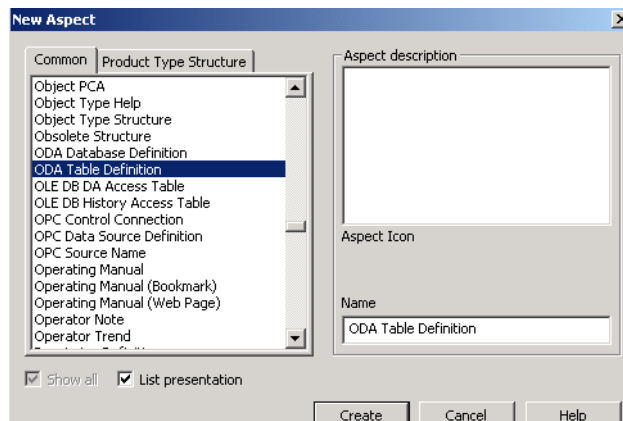

Figure 368. Selecting the Table Definition Aspect
2. In the New Aspect dialog find and select the ODA Table Definition aspect, Figure 368.
For example, in Figure 368 the Aspect Description is specified as *Engineer's View*. This description will be used as the Table Description when adding tables to the database. If the aspect has no description, the object type description (if